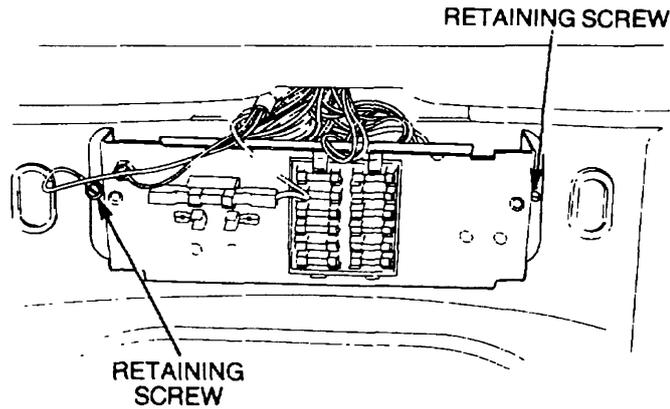

Figure 202 Fuse Panel Removal
- c. Remove the two screws securing the fuse panel to the firewall (Figure 202) and move the panel away.